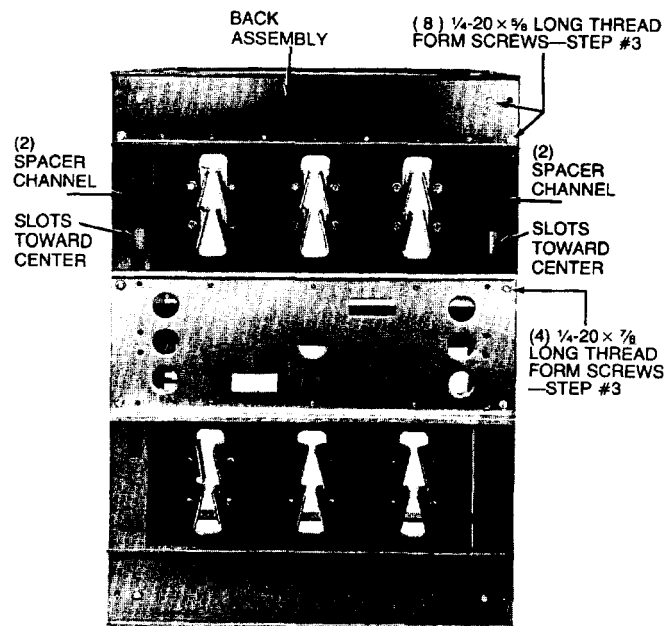

Fig. 17 4000A unit back view
side corners of the spacer channel sets nearest the back assembly must have the outside bent flange exposed, not the edge of the steel. Position the back assembly face down on top of the spacer channel pairs. Fig. 17. Line up the holes and first drive the (4) 7/8" long thread form screws through the back channel into the inner flange of the spacer channels. Next, drive the (8) 5/8" long thread form screws top and bottom at positions shown.